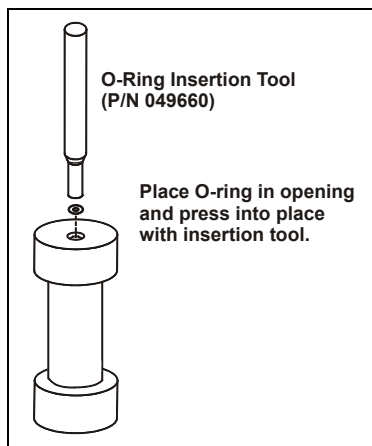

Figure B-11. Installing Cell O-Rings
- If an O-ring is missing, install a new one (see Figure B-11).